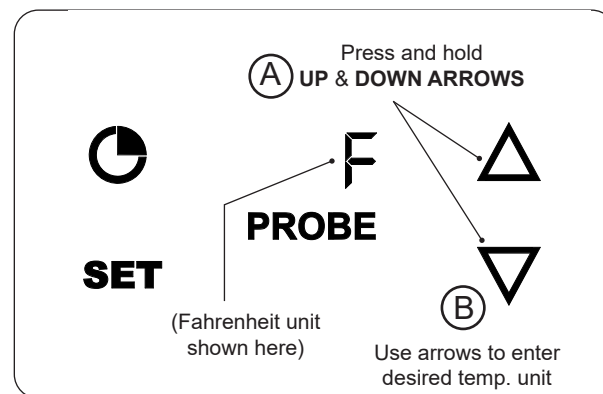

Fig. 42-4 Change temp. unit
1. Press and hold the **UP** and **DOWN** arrows until °F or °C is displayed (Fig. 42-4, A).
2. Press the **UP** or **DOWN** arrow to select the desired temp unit (Fig. 42-4, B).